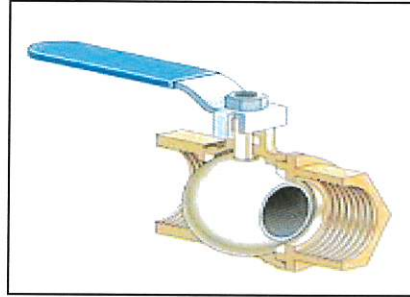

Figure A3(c) / Rajah A3(c)
- (b) Elaborate the operations of direct acting and reverse acting for Diaphragm Actuator in Figure A3(b).
- (c) A shut-off valve is a valve that safely manages the flow of hazardous fluids (liquids, gases, slurries, and fluidized solids). Shut-off valves are also known as on-off valves, cut-off valves, lockout valves, stop valves, etc. Figure A3© shows one of shut-off valve that controls the flow of a liquid or gas. Write the valve name, physical characteristic, valve operation, and the application of the valve.